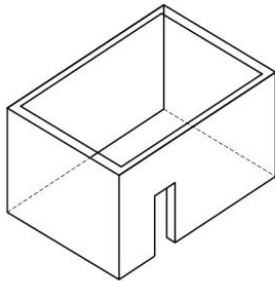

FIGURE F1—OUTDOOR AREA—EXAMPLE 1
- (1) Any enclosure with walls on all sides, but at least one permanent opening at ground level, and no overhead cover. See figure F1.